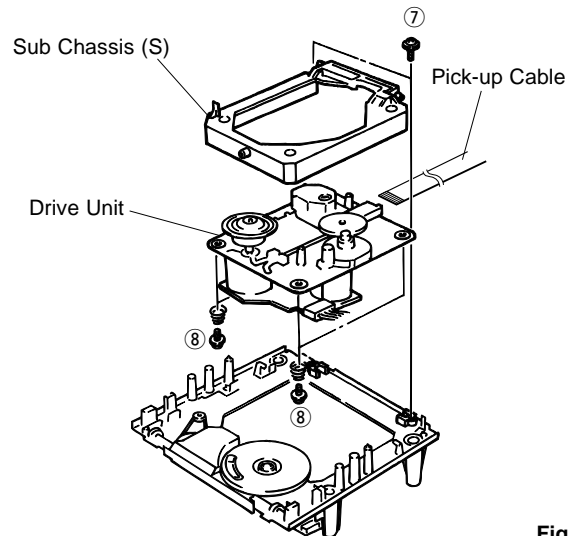

Fig. 4
- a. Remove 2 screws ( ⑦ ) in Fig. 4.
- b. Remove a pick-up cable in Fig. 4.
- c. Remove 4 screws ( ⑧ ) and then remove the Drive Unit in Fig. 4.